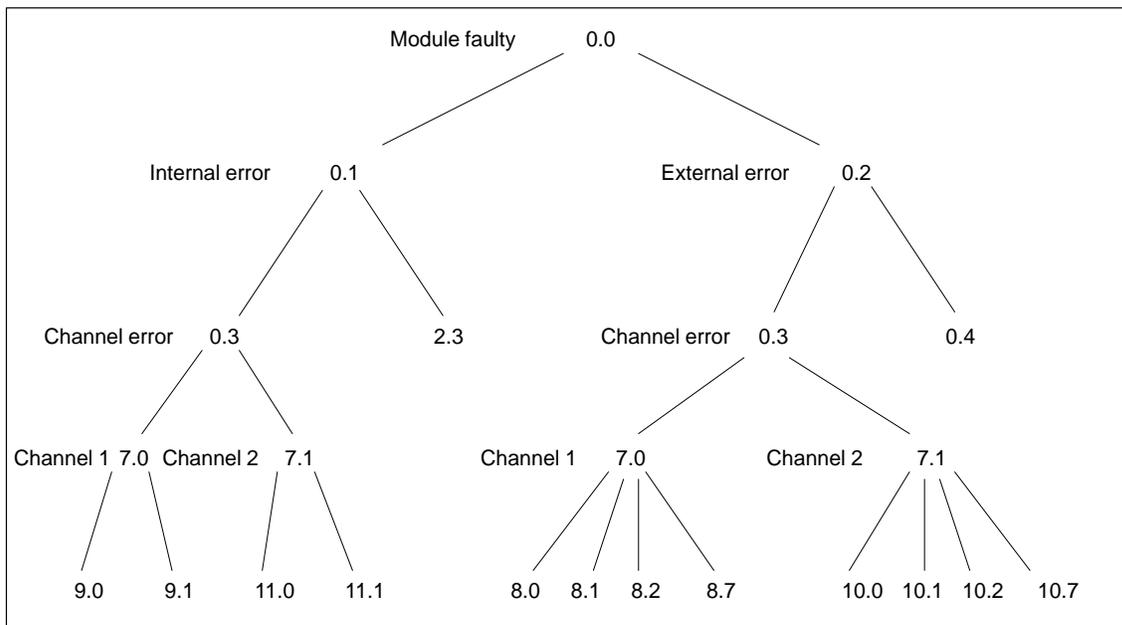

Figure 11-2 Diagnostic Chart: Bits in the Channel DBs from Byte 72 Onwards (DIAGNOSTIC\_INT\_INFO)
- With the aid of the diagnostic chart shown in Figure 11-2 you can see the relationship between the separate bits.
7.0	Channel 1 faulty - more precise analysis is possible (see Figure 11-2)
7.1	Channel 2 faulty - more precise analysis is possible (see Figure 11-2)